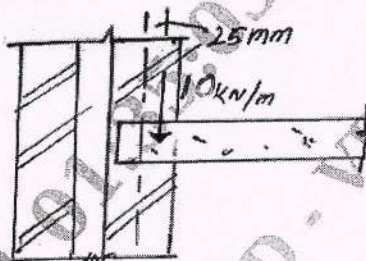

Fig. Q8 (b)
- b. Design an external cavity wall of a single storeyed building the inner leaf of which supports an eccentric load of 10 kN/m at an eccentricity of 25 mm. The wall is fully restrained at top and bottom and supports a concrete roof at the top. Height of wall is equal to 4.0 m. Refer Fig. Q8 (b). (15 Marks)